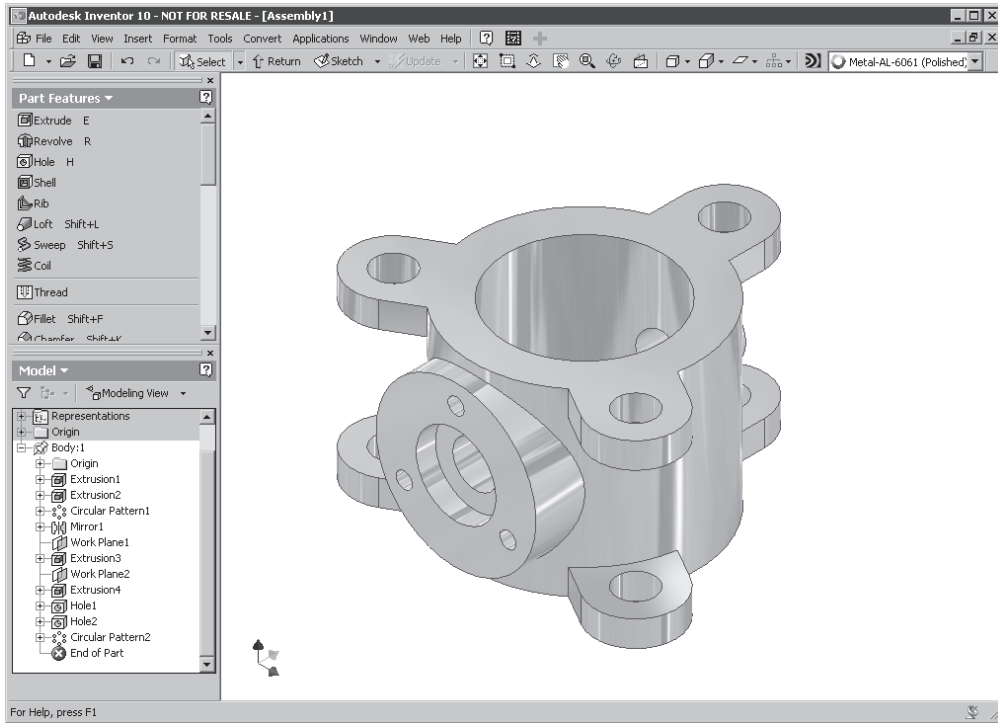

Figure 8-35 Assembly file in the part modeling environment after creating the Body
7. Create the *Body* of the *Butterfly Valve* using the given dimensions. The screen display of the assembly file after creating the *Body* is shown in Figure 8-35.